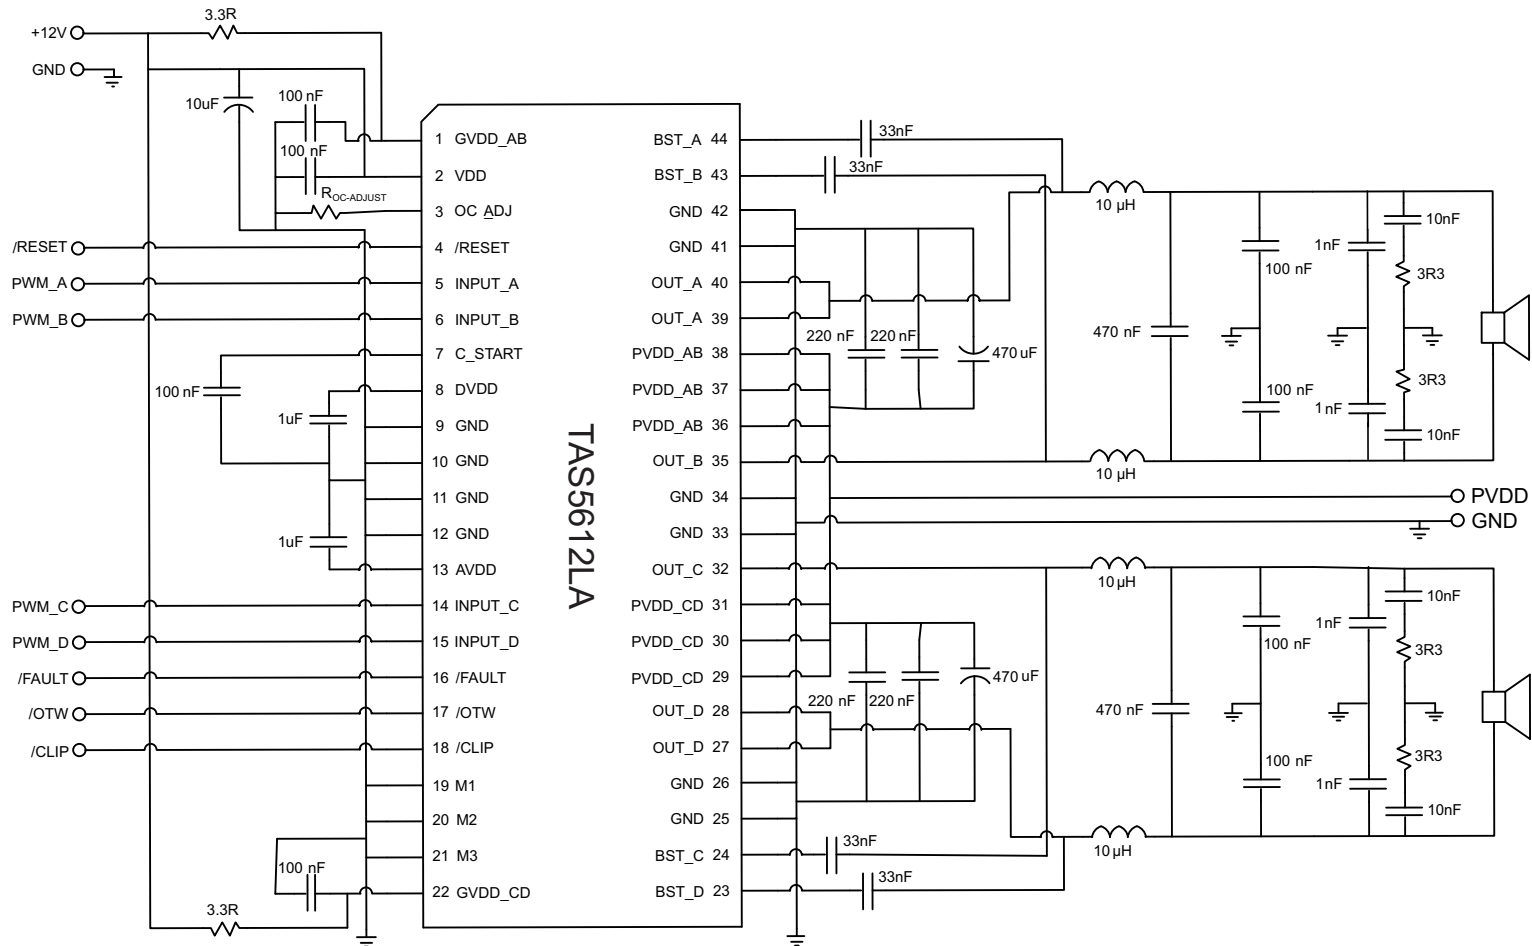

Figure 16. Typical Differential (2N) BTL Application With AD Modulation Filters
See Figure 16 for application schematic. In this application, differential PWM inputs are used with AD modulation from the PWM modulator (TAS5558). AD modulation scheme is defined as PWM(+) is opposite polarity from PWM(-).
- Pins 27, 28, 32, 35, 39, 40 - Output pins from half-bridges A, B, C, and D. Connect appropriate bootstrap capacitors and differential LC filter as shown in Figure 16.
- Pins 29, 30, 31, 36, 37, 38 - Power supply pins to half-bridges A, B, C, and D. A and B form a full-bridge and C and D form another full-bridge. A 470-uF bulk capacitor is recommended for each full-bridge power pins. Two 0.22- μ F decoupling capacitors are placed on each full-bridge power pins. See Figure 16 for details.